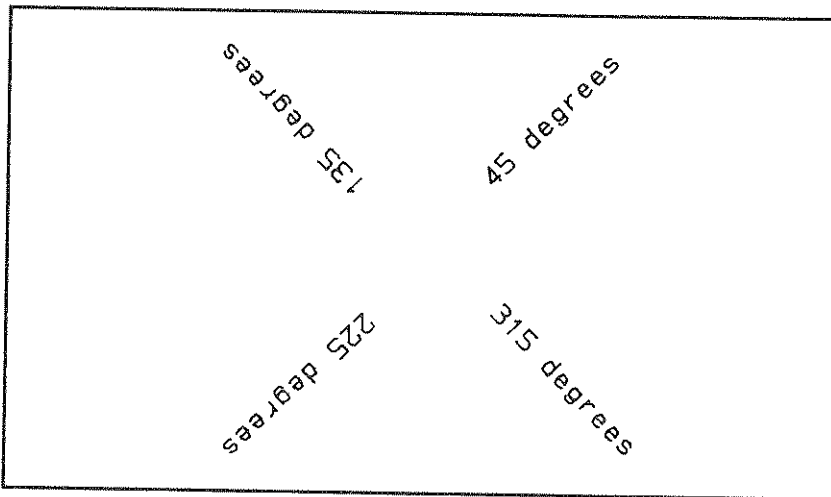

Figure 6-4. Character direction (DI) command
The move absolute (MA) command moves the pen to the same position each time a label (starting with five spaces) is printed with the label (LA) command. Figure 6-4 shows the results.